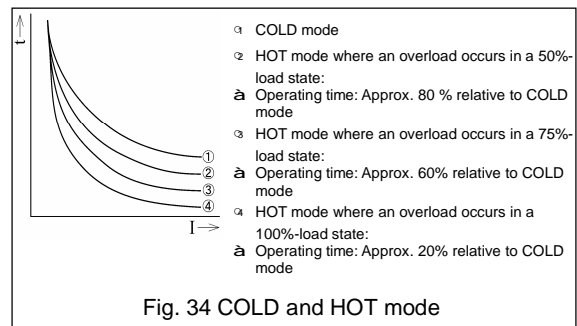

Fig. 34 COLD and HOT mode
- Ⓒ In HOT mode, the OCR is actuated in shorter time than in COLD mode when an overload occurs after a certain degree of load is maintained for a certain time of period. The OCR is factory set to COLD mode. See 5-3-6 for how to set the OCR to HOT mode. If the control power is lost, load data stored in HOT mode is cleared. Fig. 34 shows the operating time in COLD and HOT modes.